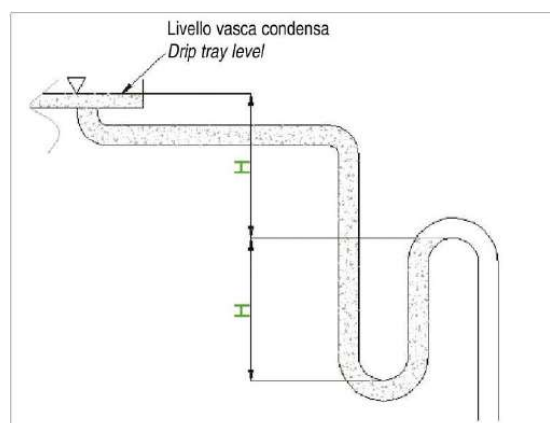

Fig.12
- The condensate drain is located in the underside of the unit, as shown in the figure 12.